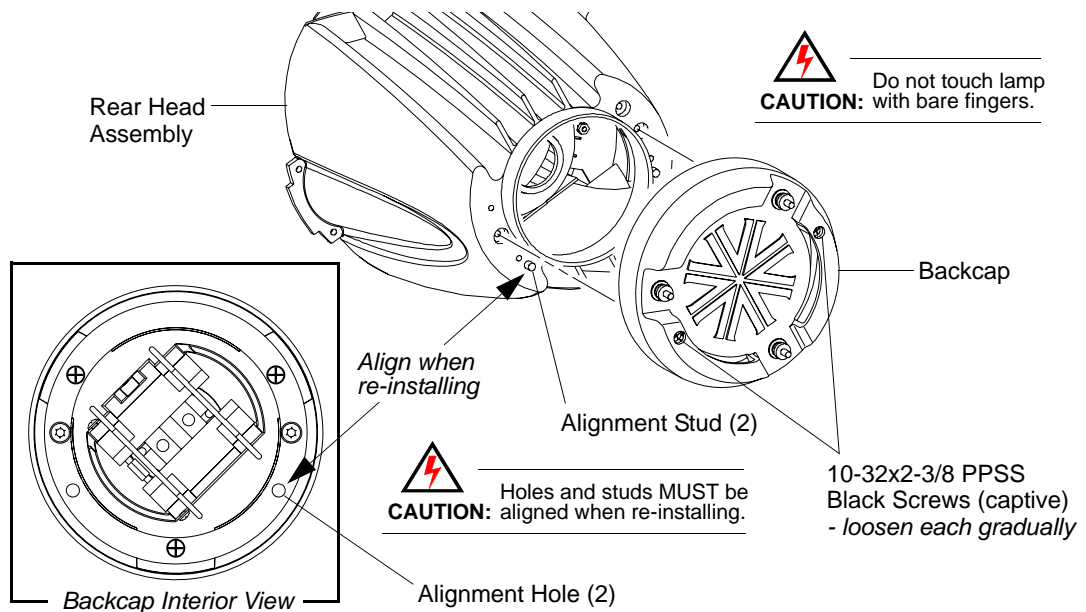

Figure 2-1: Removing Incandescent Backcap
- Step 2. At backcap, gradually loosen two 10-32x2-3/8" PPSS black screws (Figure 2-1) a few turns at a time until backcap is free. (Screws must be alternately loosened to prevent one side from locking up.)
- Step 8. Re-install backcap, ensuring that alignment studs and holes are aligned (**Figure 2-1**).